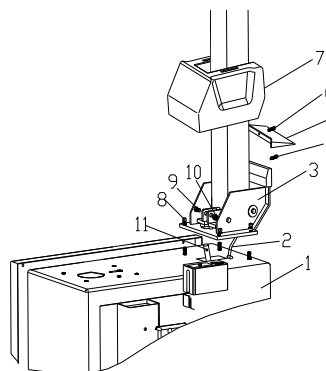

Fig 3
- 2) Place the tilting seat (3, Fig 3) on the body (1, Fig 3) with 4 bolts (M12), push air hose (2, Fig 3) through the hole of the column. Tighten 4 self-locking nut(8, Fig 3).
- 3) Insert screw (9, Fig 3) into the holes of both column and tilting cylinder shaft (11, Fig 3), tighten it with self-locking nut (10, Fig 3).
- 4) Unscrew the two bolts on the left cover and remove the cover, connect air hose (2, Fig 3) previously mentioned to the side holes which control the tilting 5-way valve. Fix the left cover.
- 5) Fix the plastic cover (7, Fig 3) with two bolts (4, Fig 3).
- 6) Mount the plastic back cover (5, Fig 3) on the column with screw (6, Fig 3).